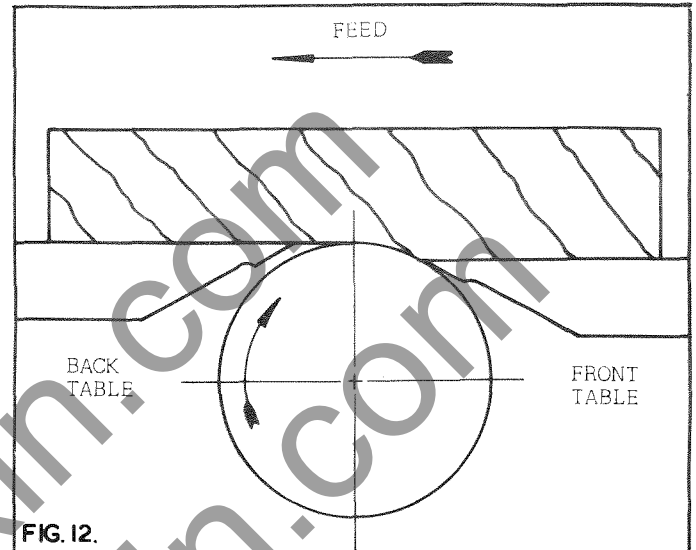

FIG. 12.
1. To obtain the best surface finish always check the direction of the grain, which should run with the cutter as shown in Fig. 12.